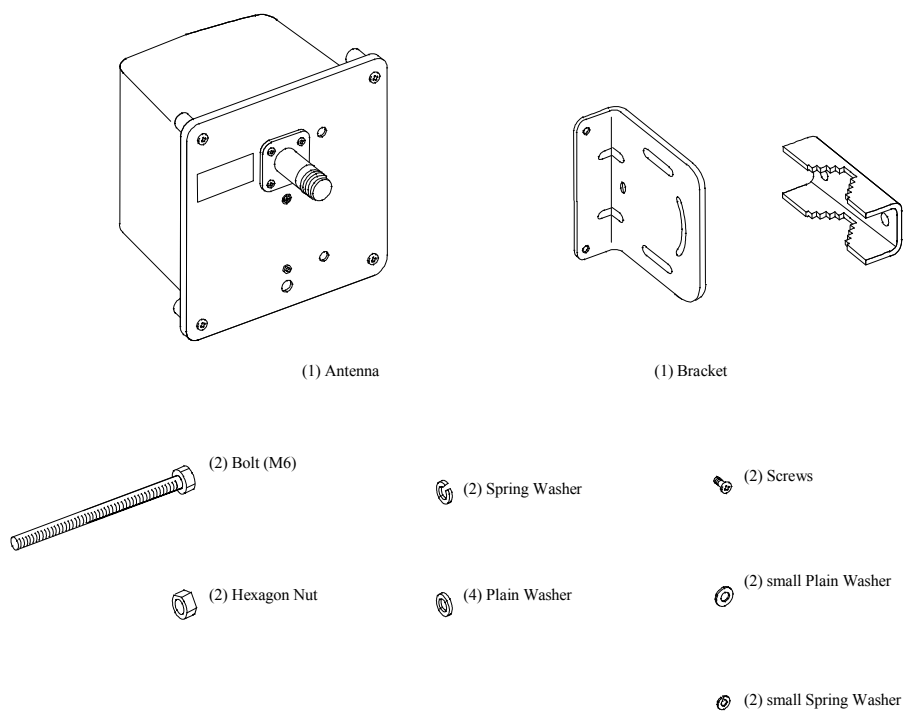

Figure 4-6 : FSU Antenna and Accessories
1. Unpack the FSU Antenna and accessories. Make sure all parts are in good condition. The FSU Antenna and accessories are shown in Figure 4-6.